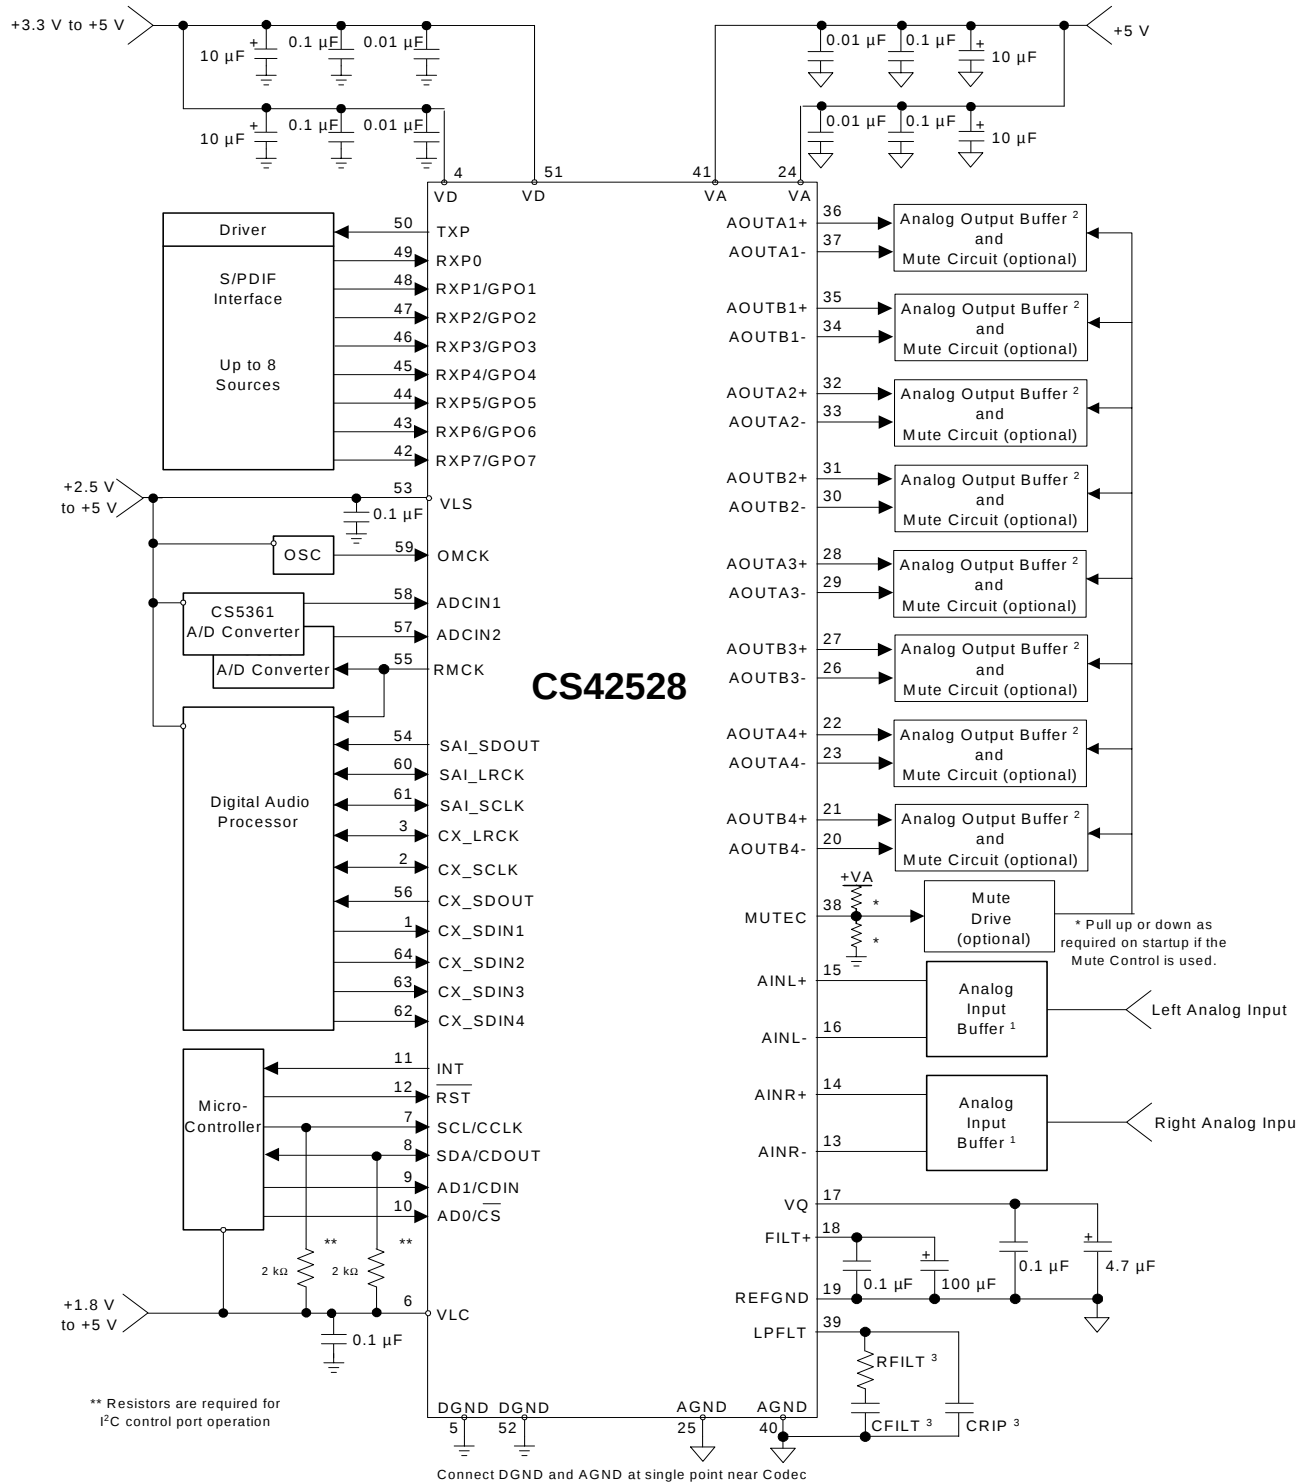

Figure 5. Typical Connection Diagram
25. Valid with the recommended capacitor values on FILT+ and VQ as shown in Figure 5.
The CS42528 is a highly integrated mixed signal 24-bit audio codec comprised of 2 analog-to-digital converters (ADC), implemented using multi-bit delta-sigma techniques, 8 digital-to-analog converters (DAC) and a 192 kHz digital audio S/PDIF receiver. Other functions integrated within the codec include independent digital volume controls for each DAC, digital de-emphasis filters for DAC and S/PDIF, digital gain control for ADC channels, ADC high-pass filters, an on-chip voltage reference, and an 8:2 mux for S/PDIF sources. All serial data is transmitted through two configurable serial audio interfaces with standard serial interface support as well as enhanced one line modes of operation allowing up to 6 channels of serial audio data on one data line. All functions are configured through a serial control port operable in SPI mode or in I²C mode. Figure 5 show the recommended connections for the CS42528.